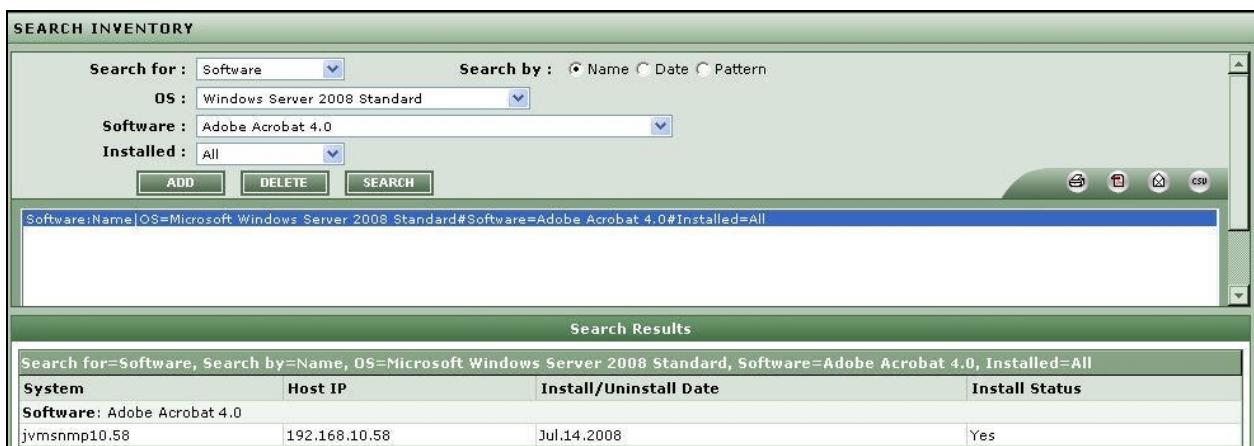

Figure 2.42: Inventory search of a software through name wise
1. Pick an option from the **Search by** section as depicted in Figure 2.42, to indicate the basis for your search. The available options are as follows:
2. **Name:** Select this option if you want to search for a specific software (see Figure 2.42). When this option is chosen, you will be required to select the **OS** on which the software operates, and then choose the **Software** of interest to you. To view the list of systems on which the chosen software has been installed, set the **Installed** flag to **Yes**. This will invoke a **Display Columns** list from which you can select the installation details that you want displayed for the chosen software. To view the list of systems from which the chosen software has been uninstalled, set the **Installed** flag to **No**. To view the complete list of systems on which the chosen software was installed/uninstalled, set the **Installed** flag to **All**.